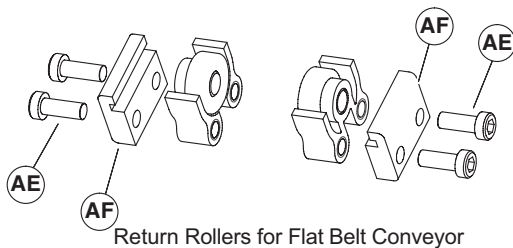
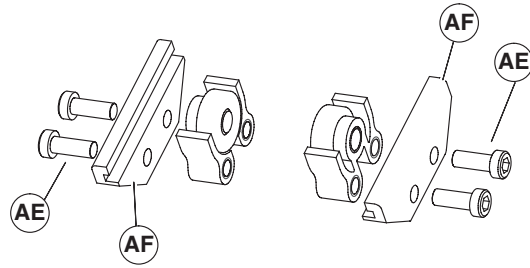

Figure 13
Figure 14
- Locate return rollers. Exploded views shown in Figure 13 & Figure 14.
- Remove screws (Figure 13, item AE) & (Figure 14, item AE) and clips (AF) from roller assembly.